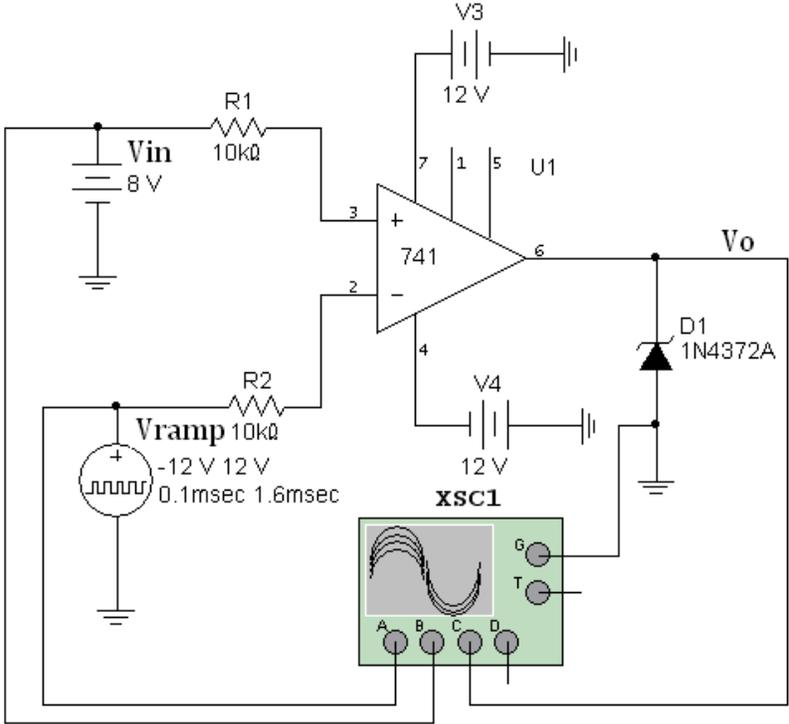
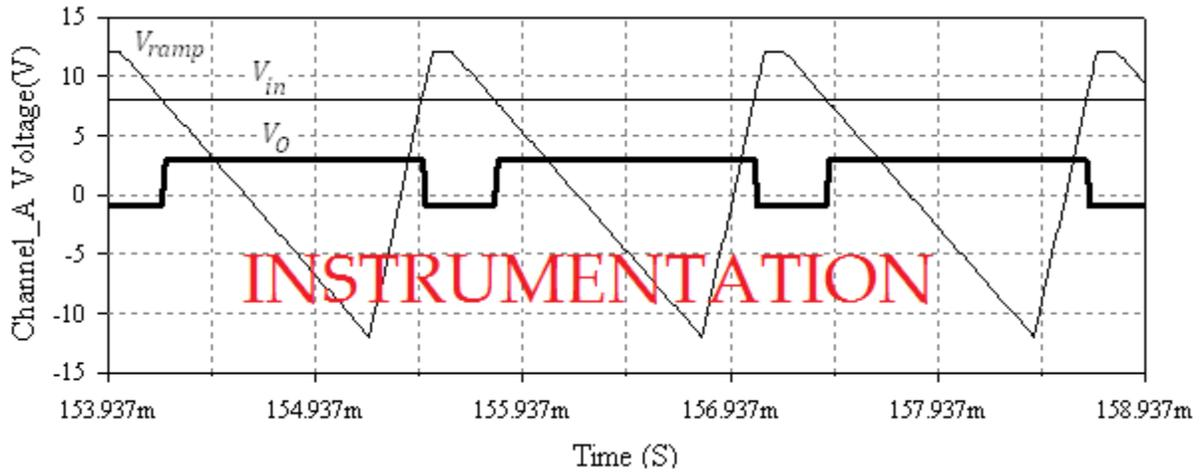

Figure 6: Simulated circuit of the input comparator with a Zener diode 1N4372A having $V_Z=-3V$ and $V_{D(ON)}=0.6V$
Figure 7: Time diagrams explaining the input comparator operation
The circuit of the input comparator was simulated by MULTISIM as shown in Fig. 6. The time diagrams explaining its operation are shown in Fig. 7 where $V_Z = -3.0V$
1. Construct and simulate the circuit of the input comparator with a Zener diode 1N4372A having $V_Z = -3V$ and $V_{D(ON)} = 0.6V$ as shown in Fig. 6.